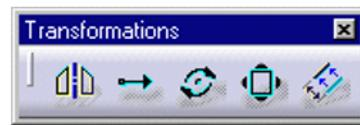

Fig.13. Fereastra de dialog **Transformations**
- Se actioneaza iconul **Translate**  din **Geometry Edition->Transformations** (fig.13);